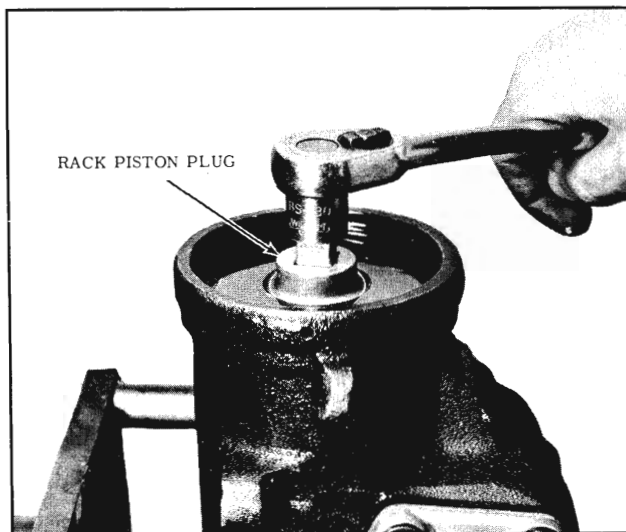

Fig. 4-43 Removing Rack-Piston Plug
3. Remove the rack-piston plug from rack-piston as shown in Fig. 4-43.